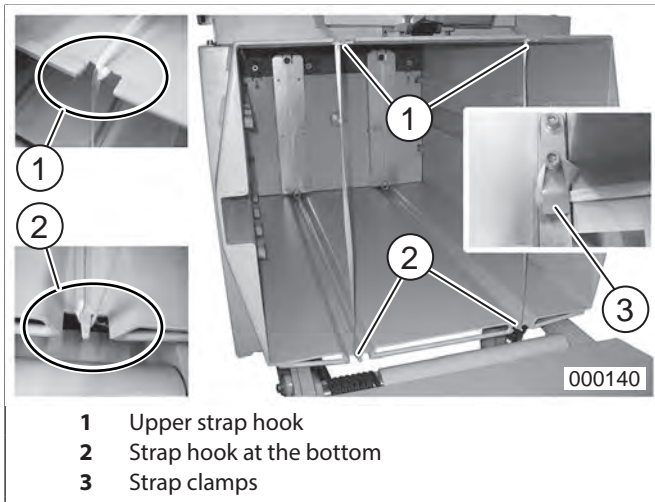

fig. 23 Inserting straps for a new bale
5. Loosen the strap ends (fig. 23/3) which have been secured to the baler housing, knot them together with the respective straps pulled out in the preceding step (fig. 19) and cut the strap behind the knot with a pair of scissors.
3. Pull the straps out a distance equivalent to about one flap length, guide the strap ends from the inside over the strap hook (fig. 23/1+2), through the inlet opening and up to the strap clamps (fig. 23/3). Secure the strap ends here by wrapping them twice around the clamps.